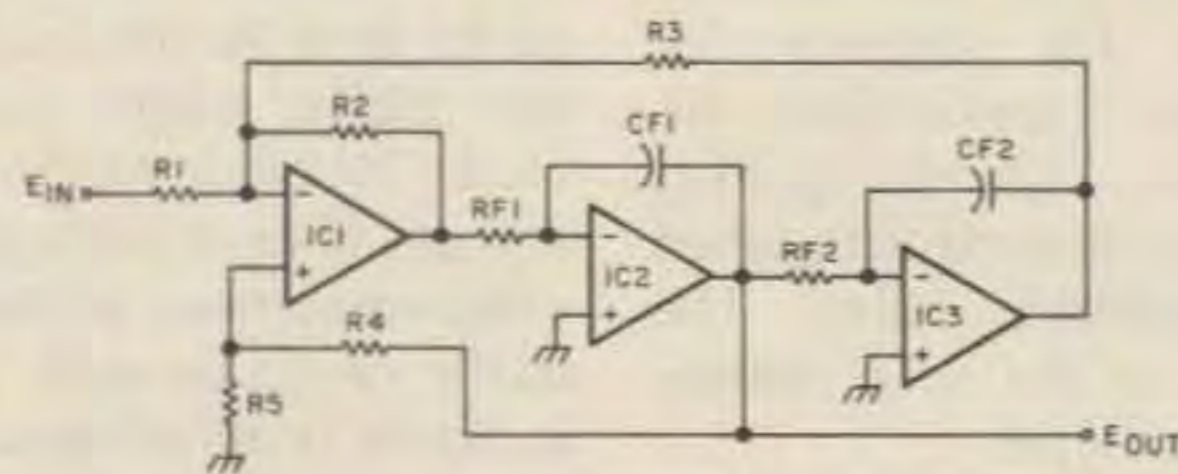

Fig. 2. A basic state-variable filter (-SVF).
Fig. 2 shows the other triple op-amp filter design. The state-variable filter (or -SVF, with the minus sign
**Step 2.** Select a circuit. We can start with the -SVF of Fig. 2 and later see what happens when we convert the design to the other circuits.